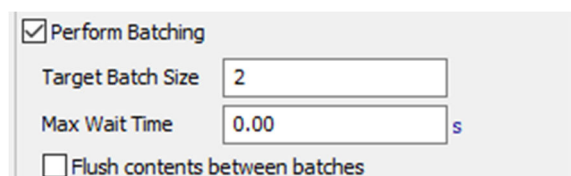

Fig. 12 Perform option Batching
5. **Perform Batching** – allows you to create a batch whose size is determined by *the Target Batch Size*. If the buffer contains the specified number of elements, they will be sent to the next object. In *the Max Wait Time field, you can specify the maximum time to wait before building the batch*. Entering "0" means the elements will be sent to the specified object only after the batch is complete. On the other hand, selecting *the Flush contents option between batches* means the buffer can contain only elements from the same batch (Fig. 12).